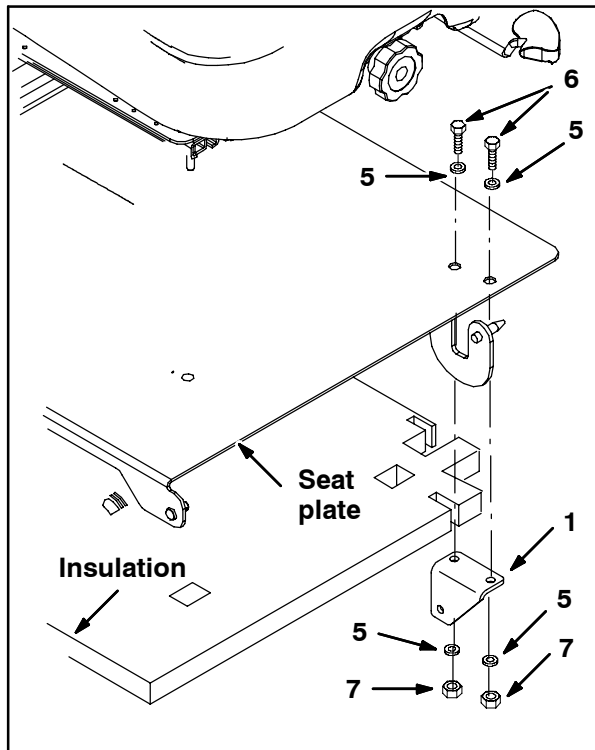

FIG. 2
5. Hold a mounting bracket (1) against the insulation under the seat plate (where the two holes are drilled through the insulation) and cut enough insulation away to make it possible to mount the bracket to the seat plate. Refer to Fig. 2.
6. Use two hex screws (6), four flat washers (5), and two hex nuts (7) to install the mounting bracket (1) onto the seat plate weldment. Refer to Fig. 2.